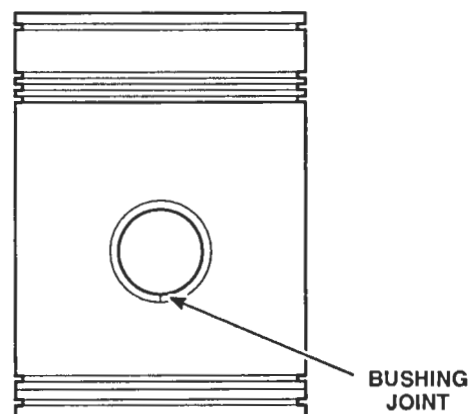

Figure 5. Piston Pin Bushing Joint
3. Insert the installer J 1513-6 in a bushing, then position the bushing and installer over the lower bushing bore. Locate the joint in the bushing toward the bottom of the piston (Figure 5.)